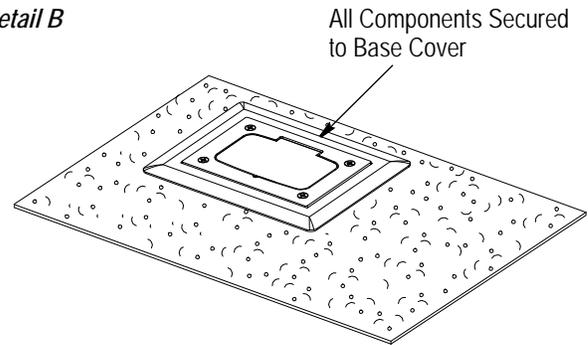

Figure 13
5. Trim the carpet around the outlet opening, and place the carpet over the base cover. The carpet should be positioned between the base foam gasket and the carpet plate. See Figure 13, Detail A.
6. Place the carpet plate (with outlet), receptacle seating plate, and outlet cover plate (with outlet cover plate foam gasket) over the outlet opening. See Figure 13, Detail A.
7. Using the hardware supplied with the outlet cover plate, secure all of the components to the base cover. See Figure 13, Detail B.